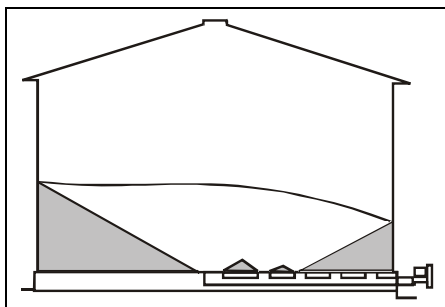
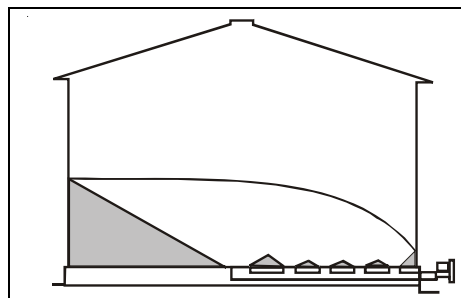

Figure 5D
Figure 5E
- If the bin is equipped with intermediate bin wells, open them after grain has stopped flowing into the center well and before the sweep auger is placed in the bin. Open the intermediate wells near the bin center first. Then when grain flow stops, open the wells near the bin wall. (See Figure 5D and Figure 5E.) The Commercial Bin Sweep Auger can then be installed. Always shut down the unloading equipment and lock out power before entering the bin.